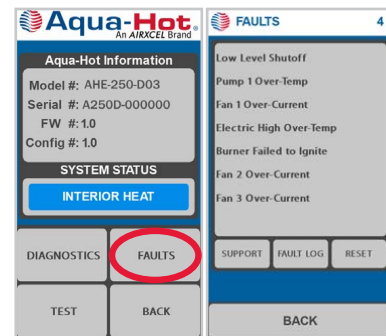

Figure 52b
3. If the pump activates, navigate to the FAULTS page (Figure 52b).